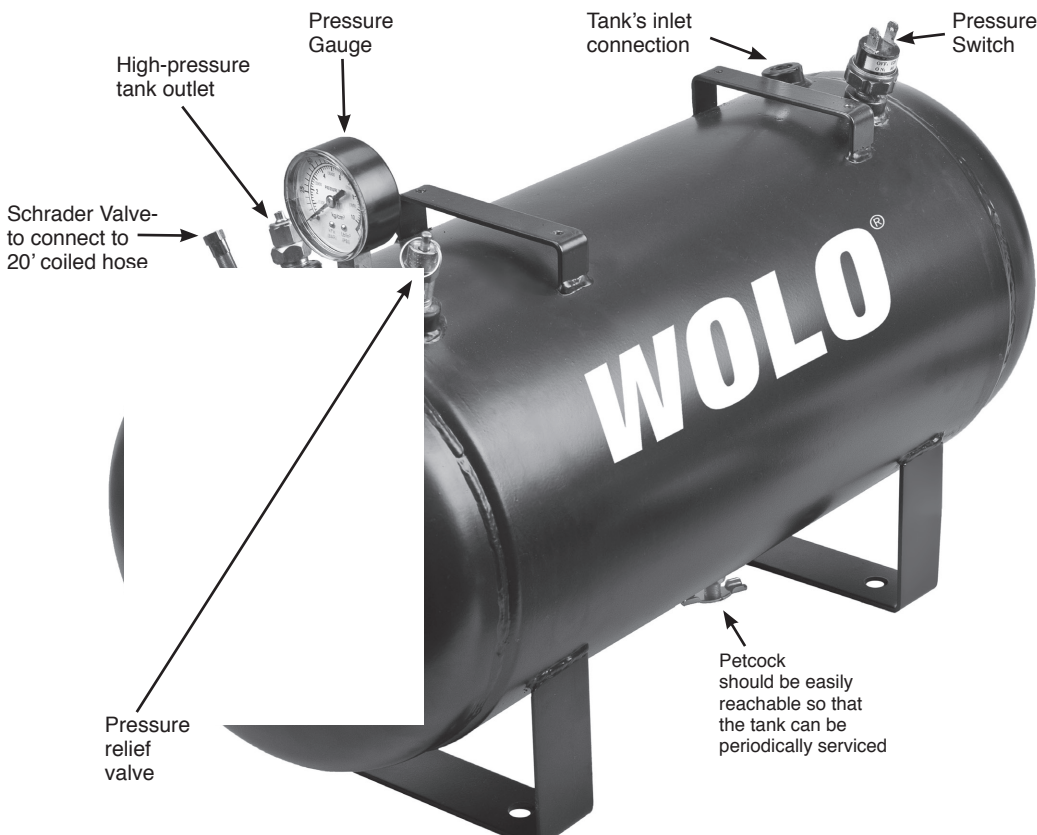

Fig. 1
TANK INSTALLATION (Fig. 1):
HOSE INSTALLATION: (Fig. 1 through 3)
3. Connect the compressors outlet hose to tanks inlet port. (Fig. 1.)